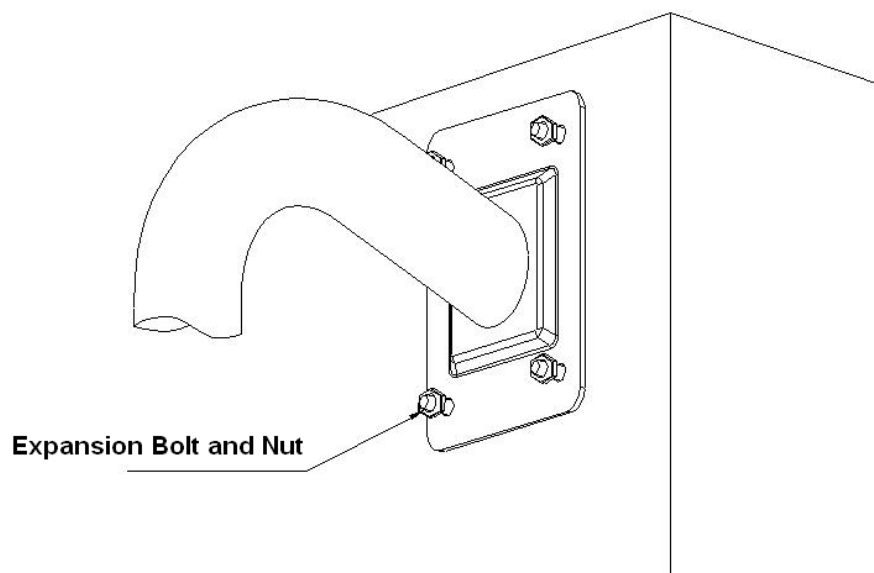

Figure 2-3
- 3) Drill holes in the wall according to the installation holes at the bottom of the wall mount bracket. Please make sure the cable exit of the bracket is facing the round hole on the wall. Connect the cable and then pull it through the hole in the wall. Use four hex screws and flat washer to secure the bracket on the wall. See Figure 2-3.